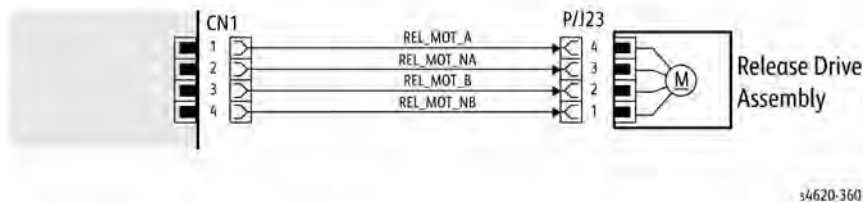

Figure 1 Example Motor Wiring Diagram
- Refer to Figure 1. Disconnect PJ23. Check the +24V supply and the phase pulses to GND when the component control code for the motor is entered. If the supply and pulses are present, install a new motor.